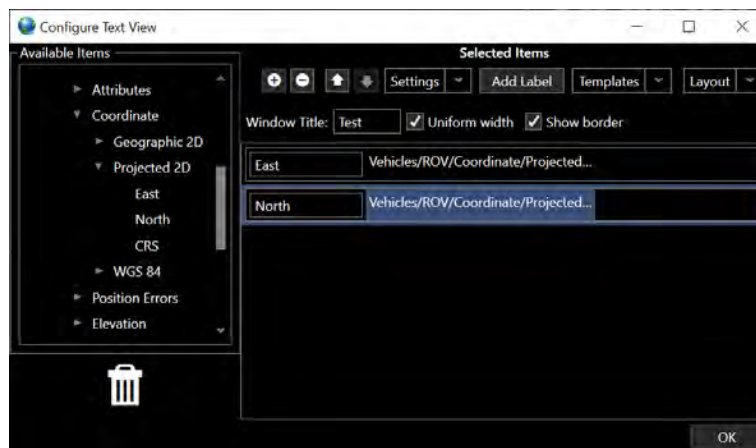

FIGURE 8-12 CUSTOM TEXT CONFIGURATION WITH DATA ITEMS
- Data Grid** Represents the multi-row Text window (see Figure 8-12). Left mouse clicking on an item and dragging it to the trash can removes that item from the display. The contents of a Label can be edited by clicking in the respective cell and entering the desired text.